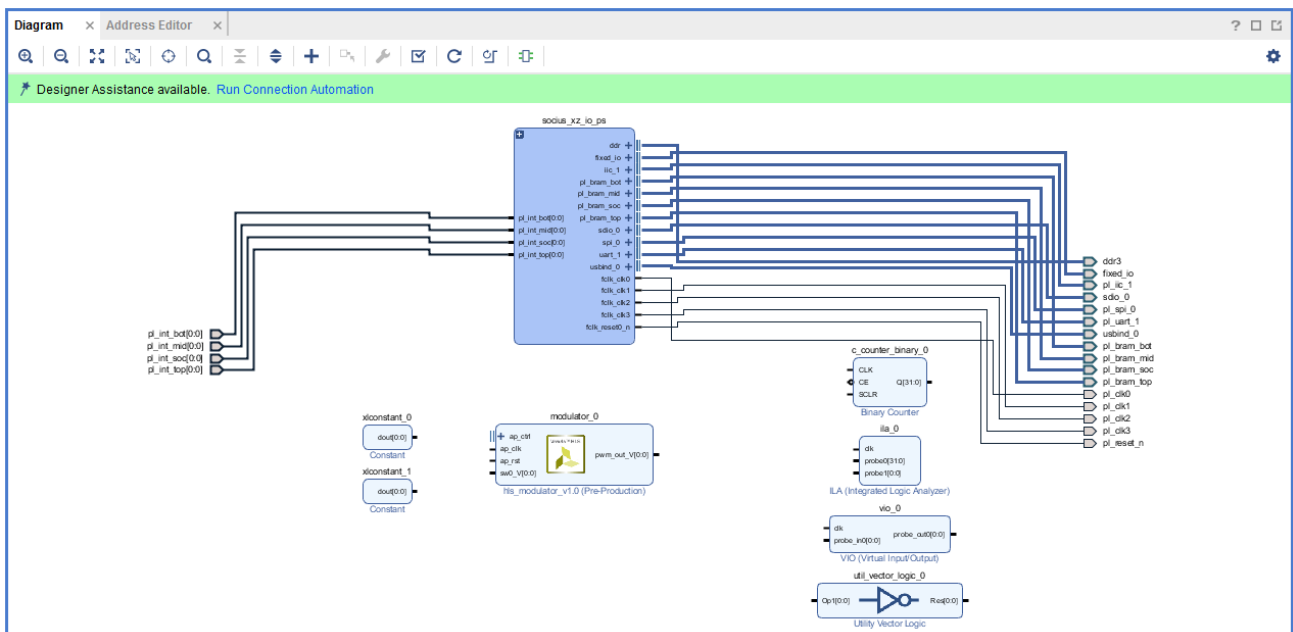

Figure 3.11: IP Integrator design canvas after all necessary IP re-customizations
10. Next step will be to manually connect the IPs. Connect all the IPs on the same way as it is shown on the Figure 3.11.
Note: As you can see from the Figure 3.11 we connected all the IPs, except: